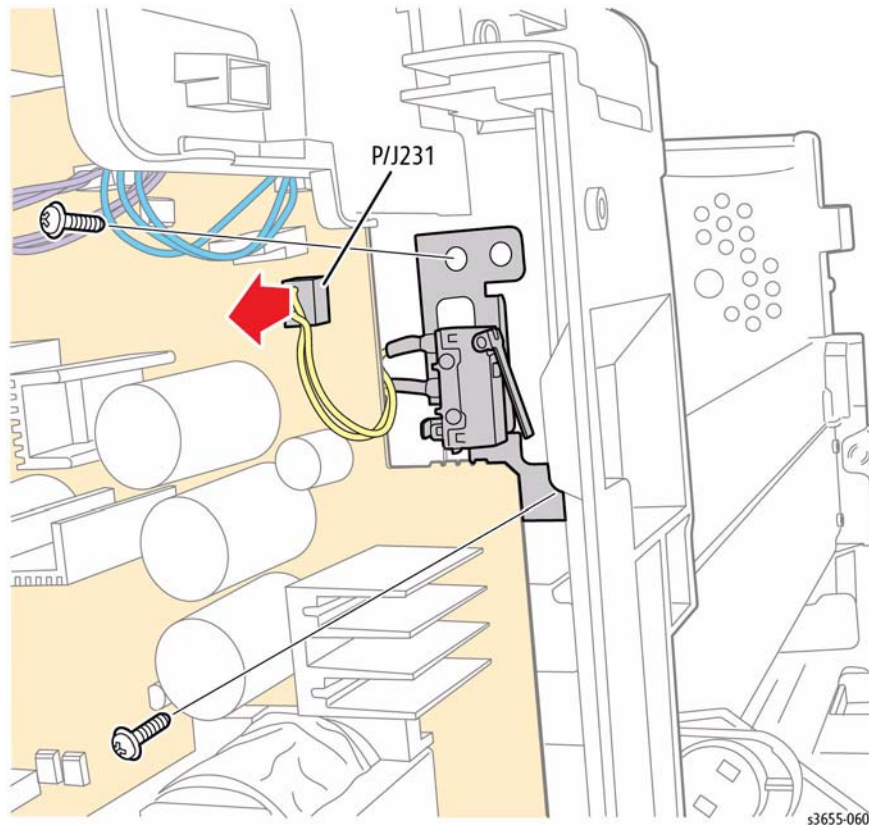

Figure 1 Remove the Front Interlock Switch
6. Refer to Figure 1 to locate and disconnect the Front Interlock Switch from the LVPS and remove 2 screws (silver, tapping, 8mm) that secure the bracket to the chassis.